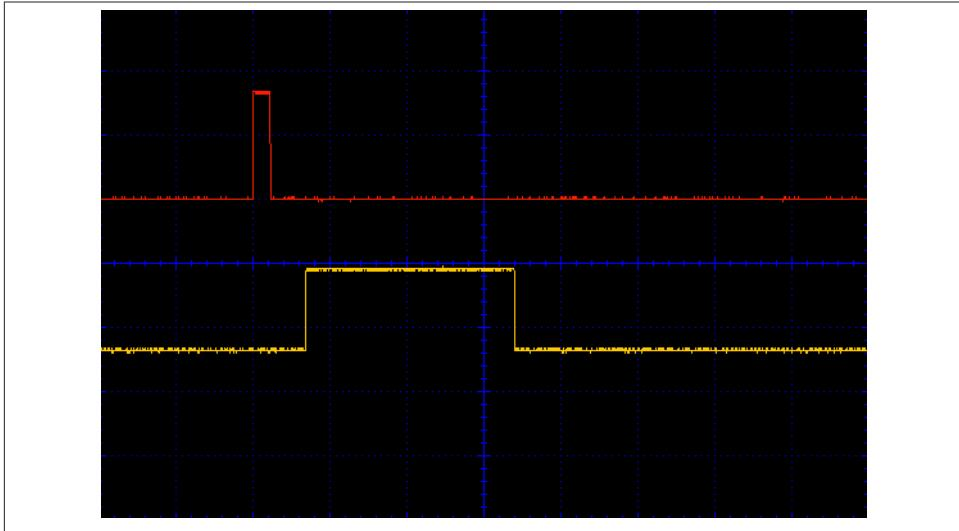

Figure 12-18. The oscilloscope trace for trigger and echo
**Figure 12-18** shows an oscilloscope trace of the sensor in action. The top (red) trace is connected to *trig* and the bottom (yellow) trace is connected to *echo*. You can see that first the *trig* pin is taken high for a short pulse. There is then a short delay before the *echo* pin goes high. This then stays high for a period that is proportional to the distance from the sensor.